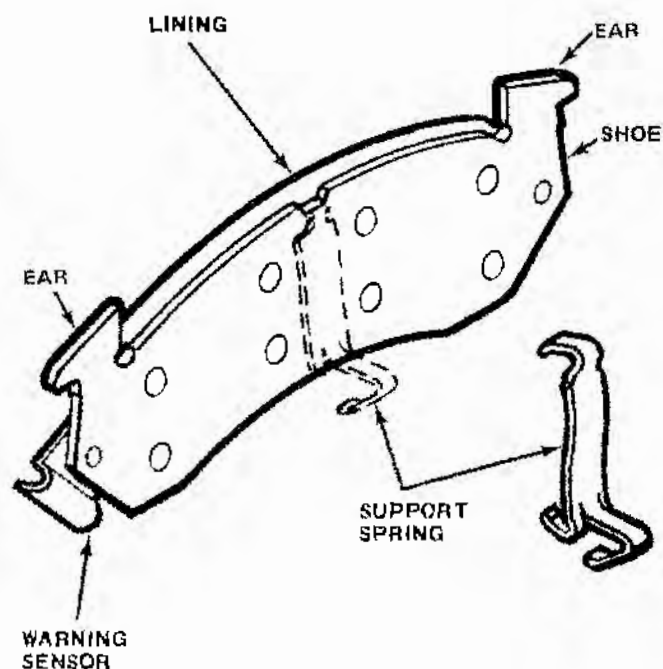

Fig. 9-42 Support Spring Installation
(9) Lubricate new bushings, sleeves, bushing grooves, and small ends of mounting bolts with a silicone lubricant. Install rubber bushings in all caliper mounting ears.
(10) Install sleeves in inboard mounting ears of caliper. Position sleeves so that sleeve end facing shoe and lining is flush with machined surface of mounting ear.
(11) Install support spring on inboard shoe. Place the single tang end of the spring over the notch in the shoe (fig. 9-42).